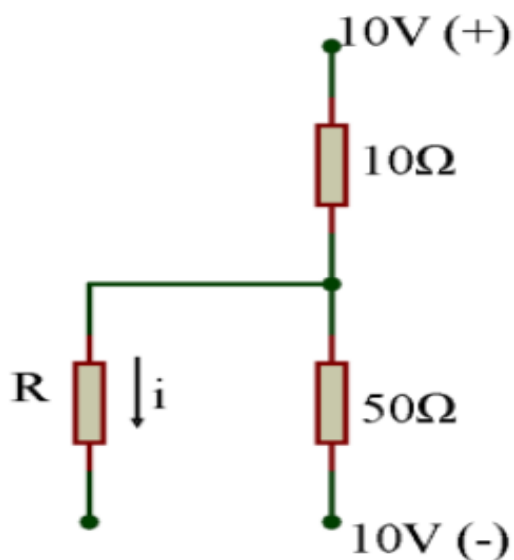

Figure 3
3. From the figure 3 shown below find the value of R by using superposition theorem. [$i=0.1\text{A}$]